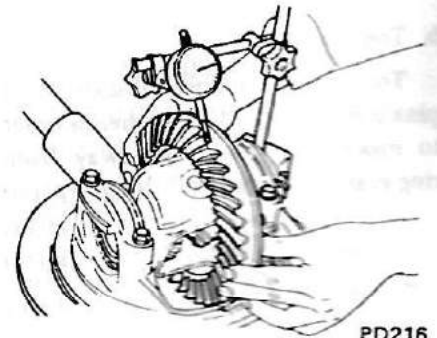

Fig. PD-24 Measuring backlash
6. Measure ring gear-to-drive pinion backlash. See Figure PD-24.